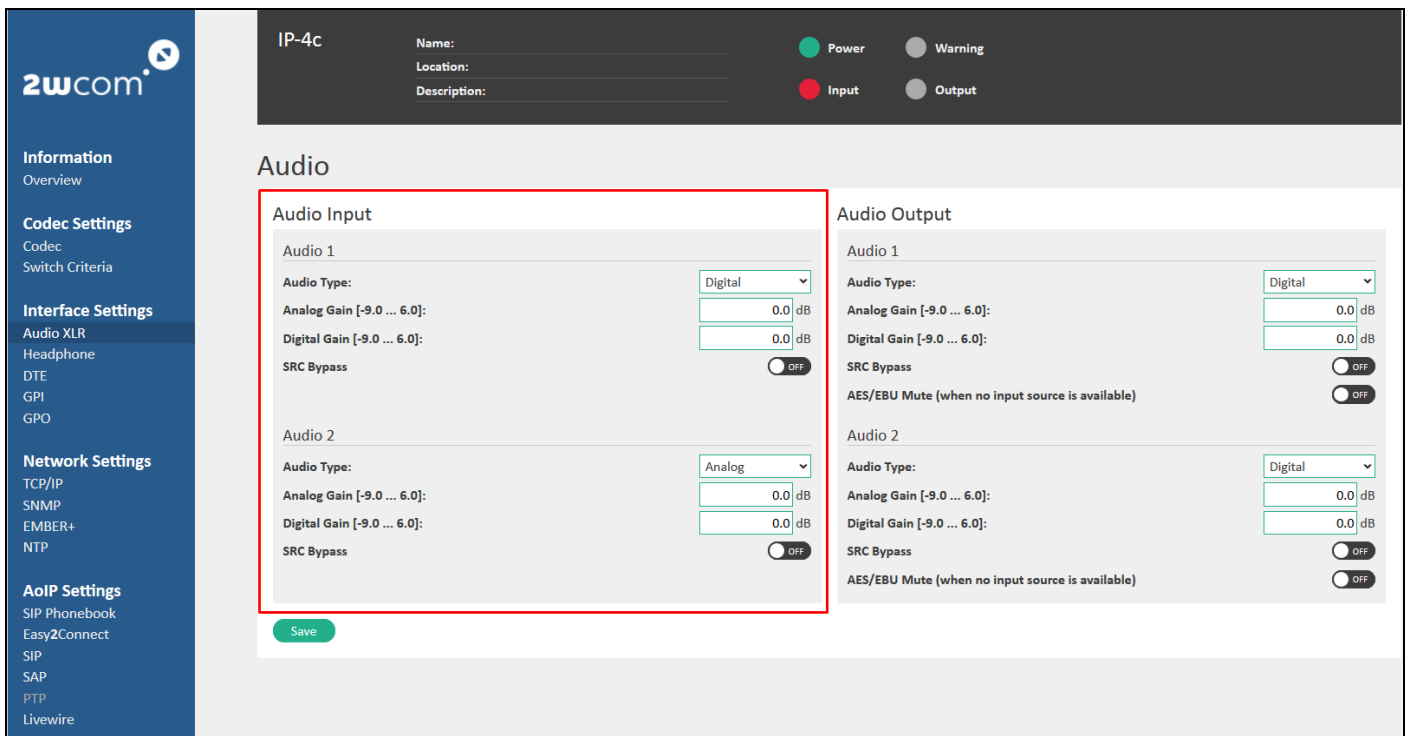

Figure 36: Audio input settings
1. Select **Interface Settings** → **Audio XLR** (see Figure 36):